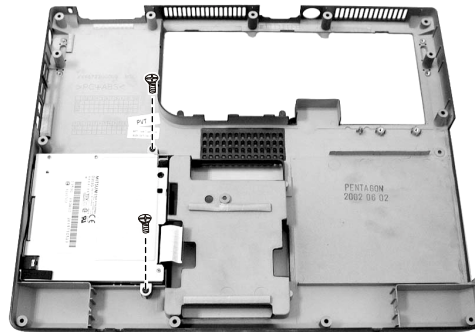

Figure 2-15 Remove two screws
4. Remove two screws fastening the FDD module. Now you can detach the FDD module from housing. (Figure 2-15)